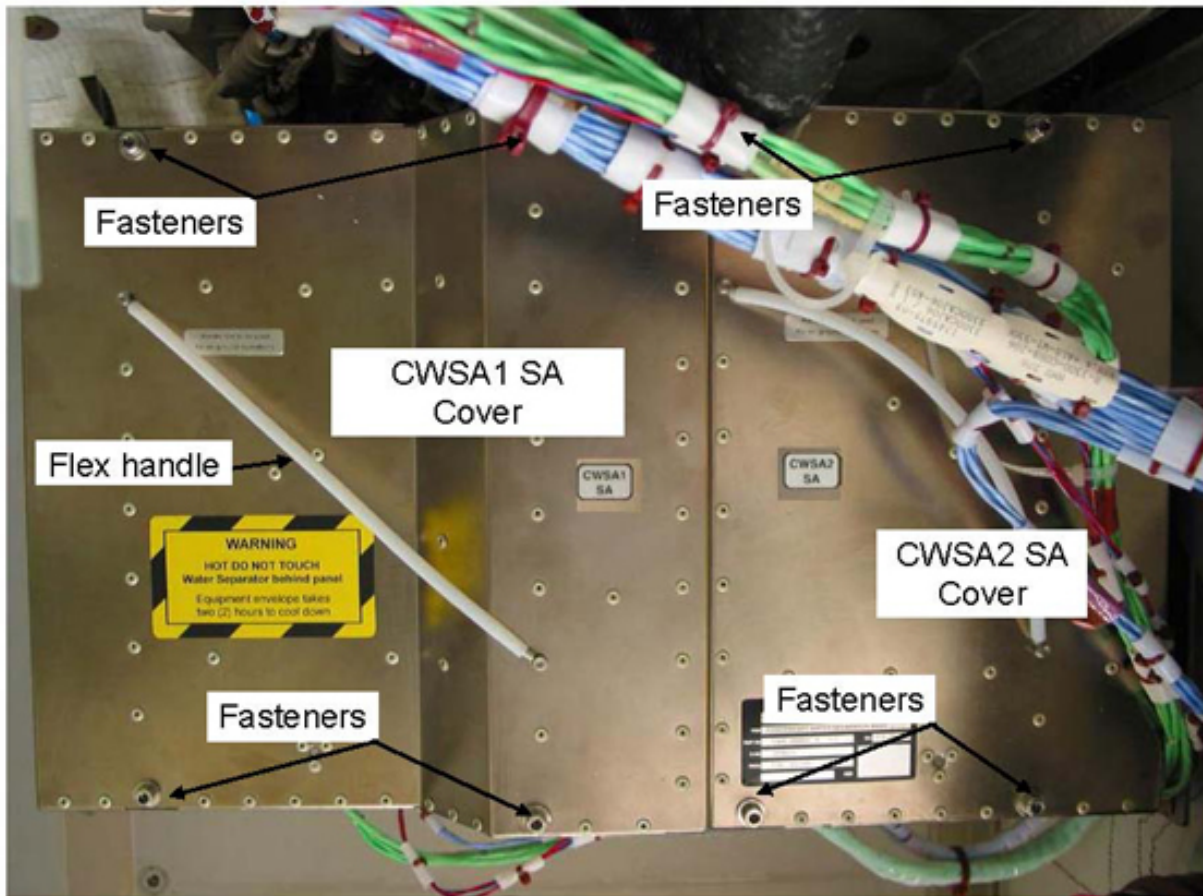

Figure 4. CWSA with covers installed (TCS piping not shown for clarity)
- 2.1 Loosen both CWSA1 SA and CWSA2 SA cover fasteners (four each) (Ratchet Wrench 1/4"; M5 (4mm) Hex Head Driver 1/4" Drive). Refer to Figure 4.